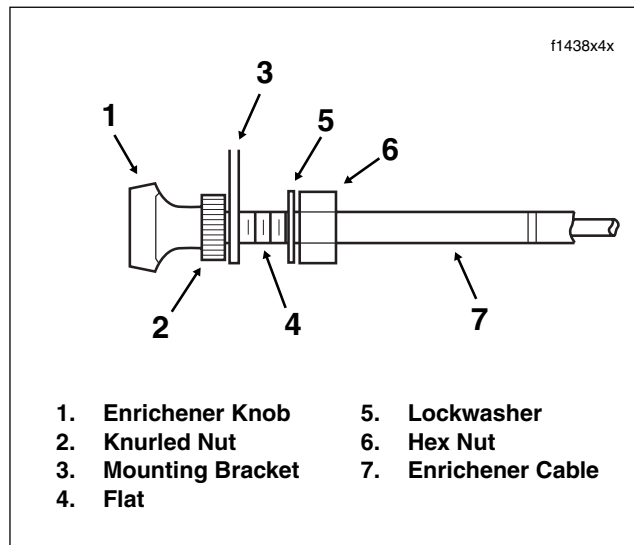

Figure 1-22. Enrichener Control
1. See Figure 1-22. Loosen hex nut at backside of mounting bracket.